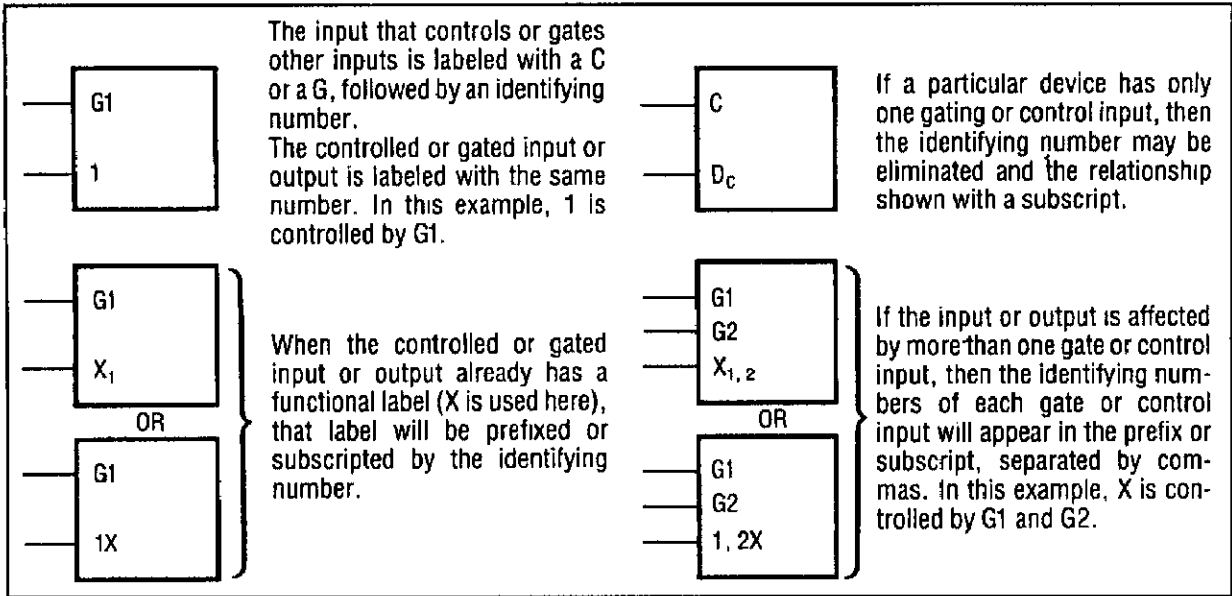
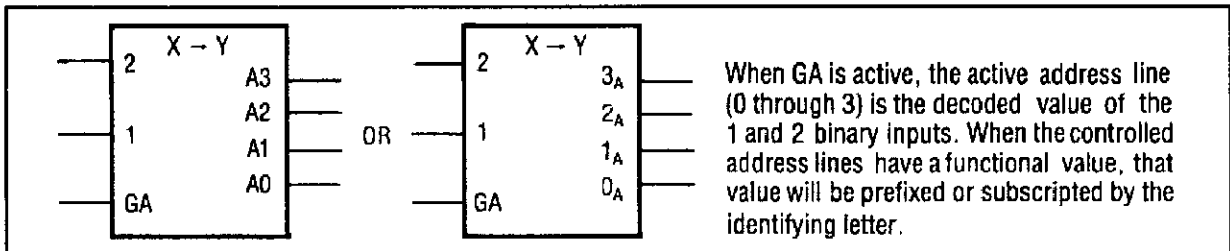

Figure 8-8. AND Dependency Notation
Figure 8-9. Address Dependency Notation
**Dependency Notation.** Dependency notation simplifies symbols for complex integrated circuit elements by defining the relationship between inputs and outputs without actually showing all the elements and connections involved (see figures 8-8 through 8-10). The following examples use the letter A for address, C for control, G for AND, V for OR, and F for free dependencies. The dependent input or output is labeled with a number that is either prefixed (e.g., 1X) or subscripted (e.g., X1). They both mean the same thing. Note that many times a controlled line may already be labeled with a number that indicates input or output weighting (for example, in a coder). In this case, the controlling or gating input will be labeled with a letter.
**Common Control Block.** The control block is used in conjunction with an array of related symbols in order to group common logic lines. Figure 8-7 shows how the control block is usually represented. Figure 8-8 shows a quad D-type flip-flop with reset. This can be redrawn as shown in figure 8-9. Note that the representation shown in figure 8-9 can be used when the flip-flops are functionally scattered around the schematic (i.e., not used as a quad unit).